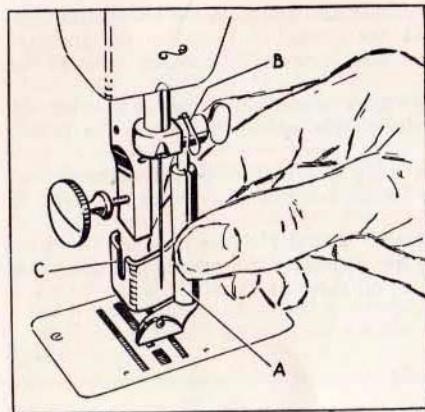

Fig. 32.
Move the needle bar up to its highest position and screw out the presser foot screw about $\frac{1}{4}$ in. Then, holding the darning foot by its tubular part (A, Fig. 32), hook the spring (B) over the needle clamp. Press the holder (C) hard against the presser bar, push it up under the screw, and tighten the screw.